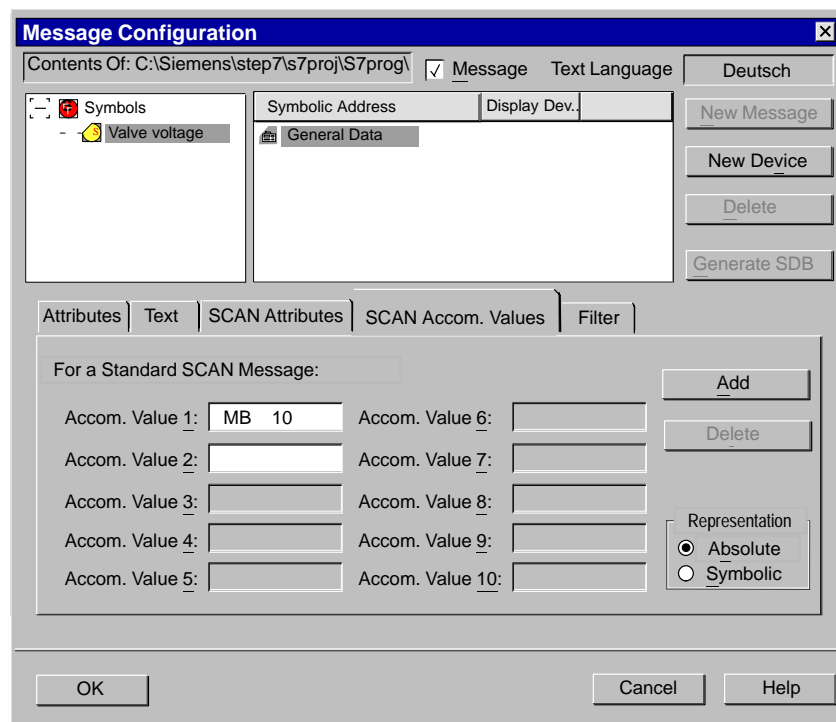

Figure 12-7 “SCAN Accompanying Values” in Message Configuration
**Result:** The selected address is added in the “SCAN Accompanying Values” tab as an accompanying value, as shown in Figure 12-7.